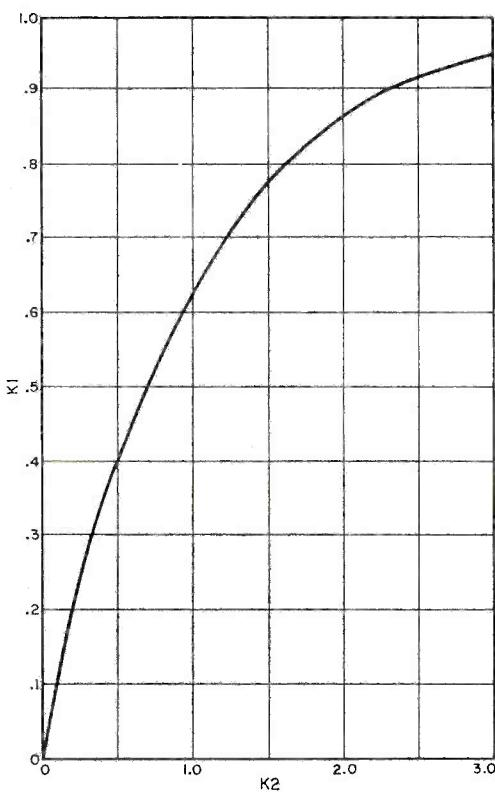

Fig. 3. Relationship of constants K_1 and K_2 .
As shown in Fig. 3, the wiring of the NUMBERS switch and the "32-OVERFLOW" indicator is simple. With S4 in the "4 BITS + SIGN" position, the indicator is connected across the last adder stage's Carry In (CI) and Carry Out (CO) terminals. Thus, it will light whenever the Carry In and the Carry Out of the "16" place value stage differ. Such a test is all that is needed to determine if the register capacity has been exceeded.
Fig. 3. To reduce illustration complexity, each of the five one-bit adders are shown in block form with only the Carry In (CI) and Carry Out (CO) of each stage identified.
Once all components are properly mounted, wire the circuit point-to-point in accordance with Fig. 3. (This figure does *not* detail the repetitive internal circuitry of the five adder stages in Fig. 2 to avoid schematic complexity.) Make sure that all diodes are mounted with the correct polarity, and properly identify the terminals of the OPERAND switches. Note that a 22-pole, 2-position switch is required for the FUNCTION switch; you must very thoroughly and carefully identify the required contacts and use unduplicated color-coded wire to avoid mix-ups.
ue of K_1 should be less than 0.63 for best results. With K_1 calculated, Fig. 3 can be used to determine another constant, K_2 . The RC time constant of the resistor and capacitor can then be calculated from the equation